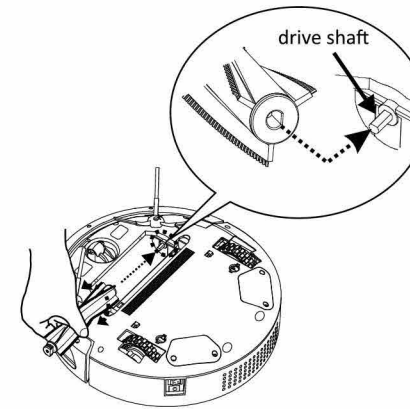

Fig. 1
1. Place right side of the roller brush into drive shaft correctly as fig.1.